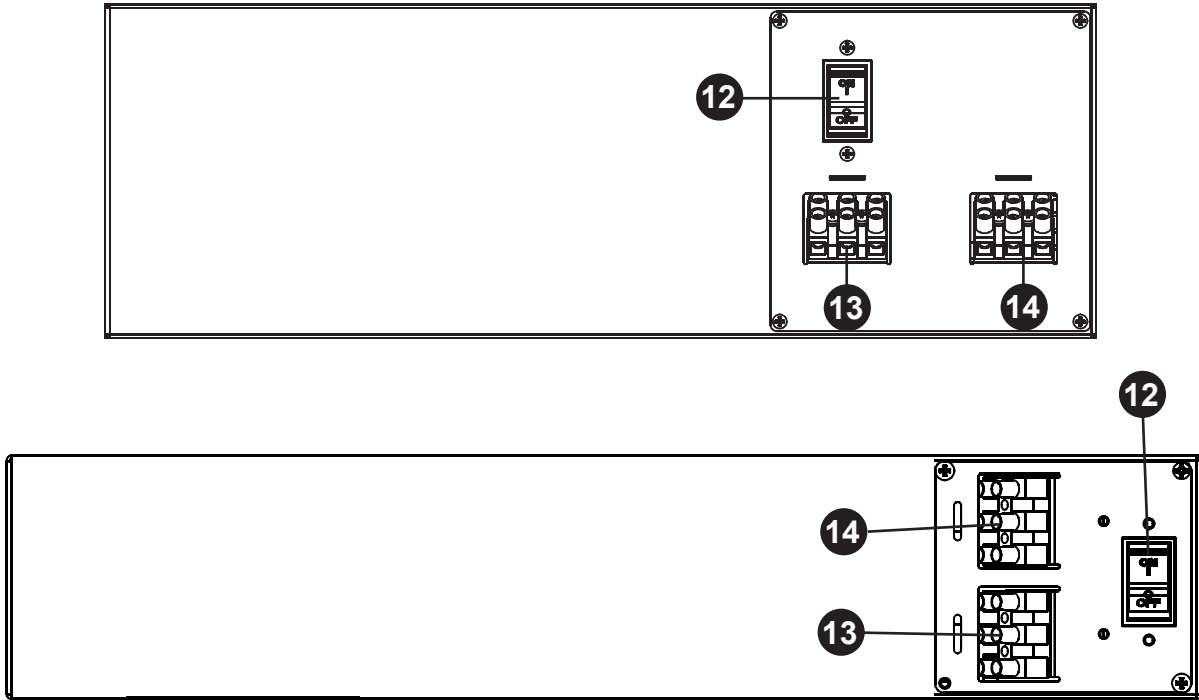

Figure 3.9 - Front Panel Description (cont'd)
3. Connect the load to the FXM's Output terminal block **14** in Figure 3.9. Torque to 12.0 lb-in (1.4 N-m).
4. Connect the line power to the FXM's AC Input terminal block **13** in Figure 3.9. Torque to 12.0 lb-in (1.4 N-m).